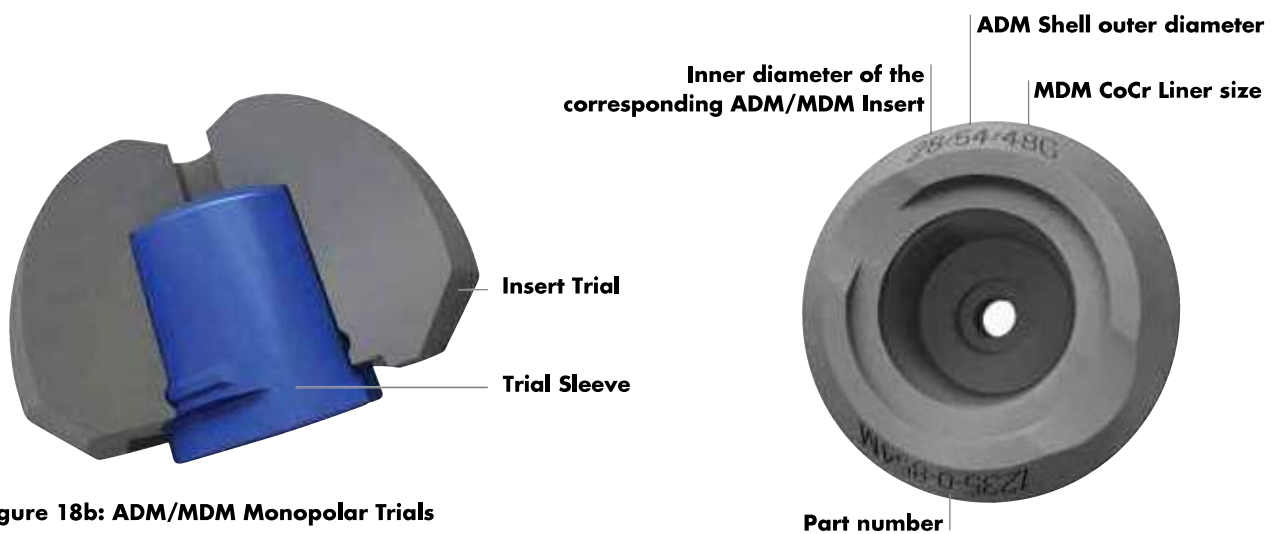

Figure 18b: ADM/MDM Monopolar Trials
- If using the ADM/MDM Monopolar Trials, place the Trial Sleeve that corresponds to the desired femoral head taper and offset into the appropriate Insert Trial by firmly pushing the Sleeve into the inner geometry of the Insert Trial (**Figure 18b, Tables 6-8**). Correct assembly of the Trial Sleeve and Insert Trials will produce an audible click. The size of the Insert Trial will correspond with the MDM liner being implanted (**Tables 6-8**).